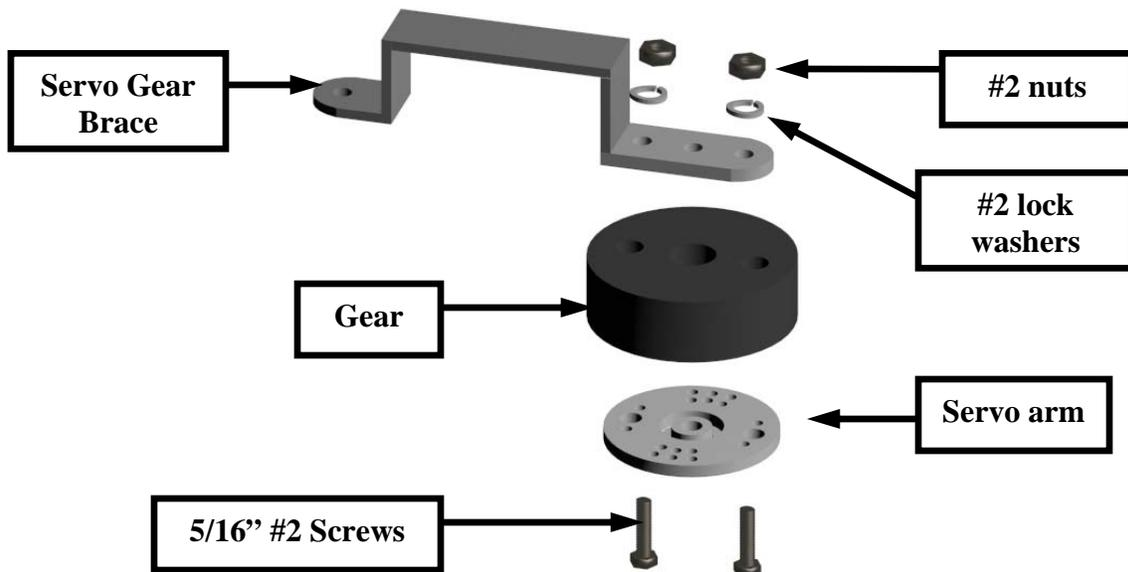

Figure 8
- Using (2) #2 lock washers and nuts, install the servo arm to the pre-assembled 60-tooth gear and the servo gear brace as shown in figure 8. (Use the servo brace that has the slightly larger, offset, center hole in the middle of the 3 hole pattern). Repeat the exact assembly sequence for the opposite gear brace.